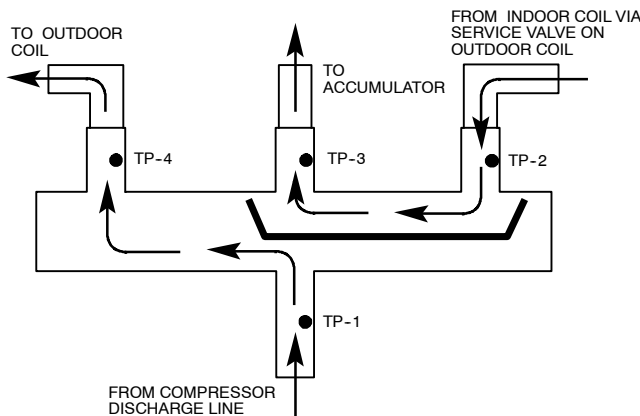
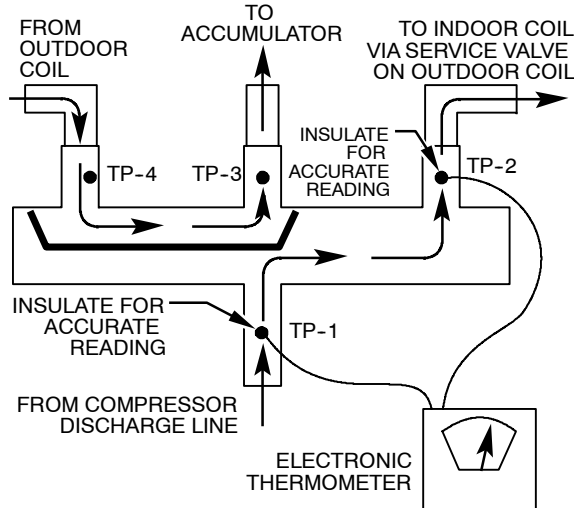

Fig. 48 – Reversing Valve
Fig. 49 – Reversing Valve
Using a remote measuring device, check inlet and outlet line temperatures. **DO NOT** touch lines. If reversing valve is operating normally, inlet and outlet temperatures on appropriate lines should be close to each other. Any difference would be due to heat loss or gain across valve body. Temperatures are best checked with a remote reading electronic-type thermometer with multiple probes. Route thermocouple leads to inside of coil area through service valve mounting plate area underneath coil. Fig. 48 and Fig. 49 show test points (TP) on reversing valve for recording temperatures. Insulate points for more accurate reading.